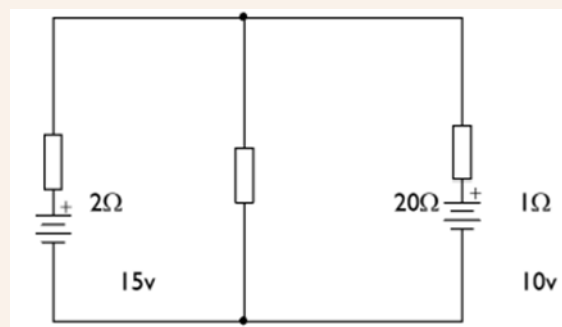

Figure 1
3. **Figure 1** shows two cells with internal resistances of 2Ω and 1Ω respectively which are connected to a 20Ω resistor.